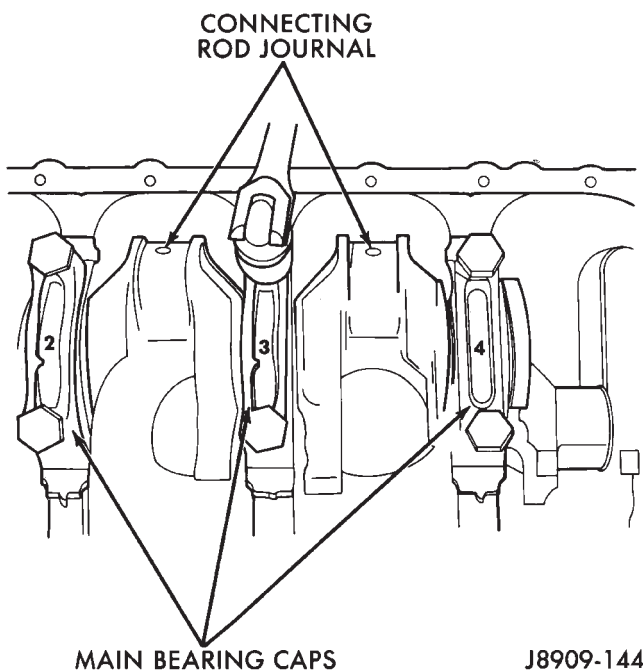

Fig. 1 Removing Main Bearing Caps and Lower Inserts
- (1) Disconnect negative cable from battery.
- (2) Remove the spark plugs.
- (3) Raise the vehicle.
- (4) Remove the oil pan and oil pump.
- (5) Remove only one main bearing cap and lower insert at a time (Fig. 1).